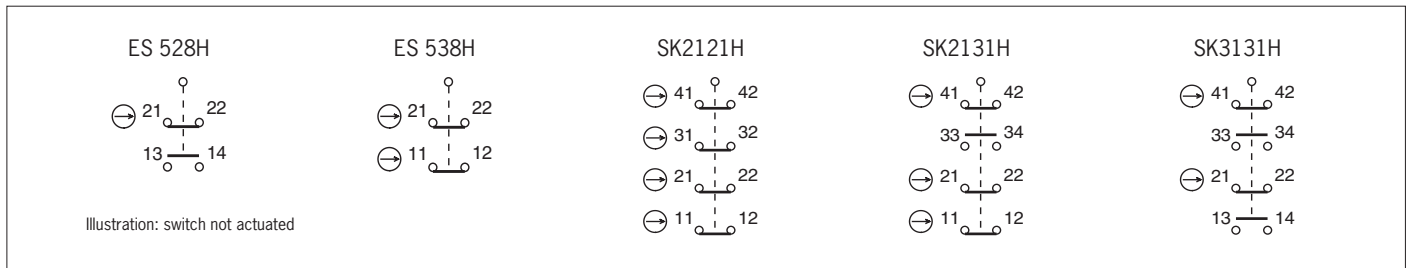

Fig. 3: Terminal assignment for switching elements
At least one contact (⊖) must be used. It signals the guard locking state (for terminal assignment, see Fig. 3).
3. Connect and tighten the terminals with 0.5 Nm (for terminal assignment, see Fig. 3).